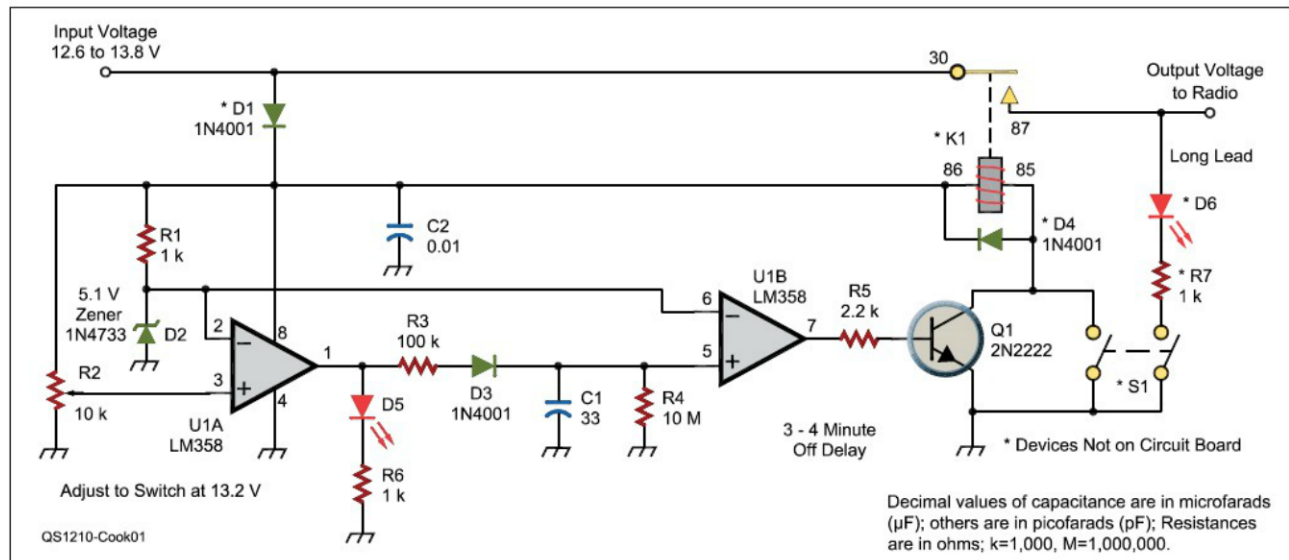

Figure 1 — Schematic diagram and parts list of automatic power controller. Parts with stock numbers are from All Electronics at www.allelectronics.com.
The circuit and its parts list are shown in Figure 1. Diode D1 is used to protect the circuit from reversed polarity power being connected to the input. The capacitor C2 is for RF bypass to minimize RF interference.
- In "A Digital Interface for Fldigi" [Aug 2012, pp 36-38] Figure 1 shows the connectivity of the output pins of U2 in error. Pin 4 should go to MIC GROUND, pin 5 should go to PTT and pin 6 should be left unconnected. The miniature audio isolation
- In "My Tuner Tuned My Antenna — But Now It Doesn't!" [Aug 2012, p 47] the caption to Figure 1 should say TLW TUNER output, not EZNEC TUNER output.